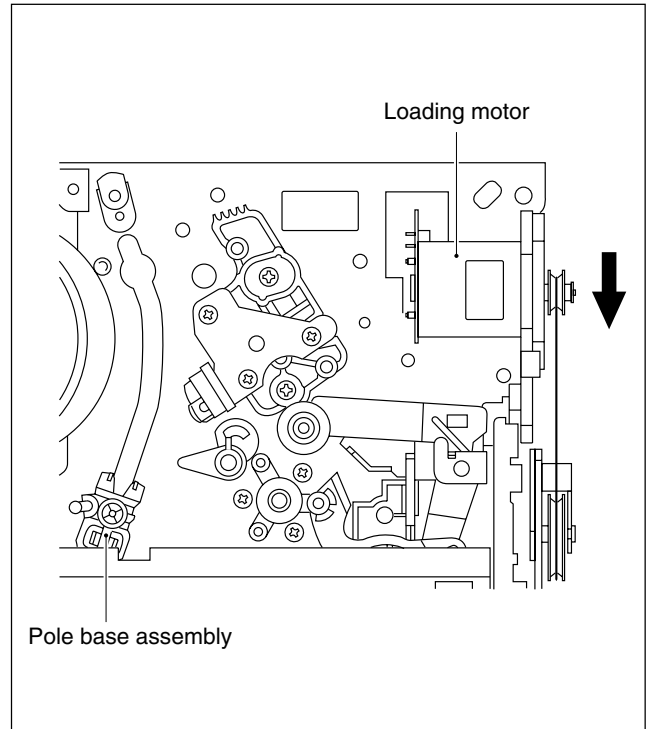
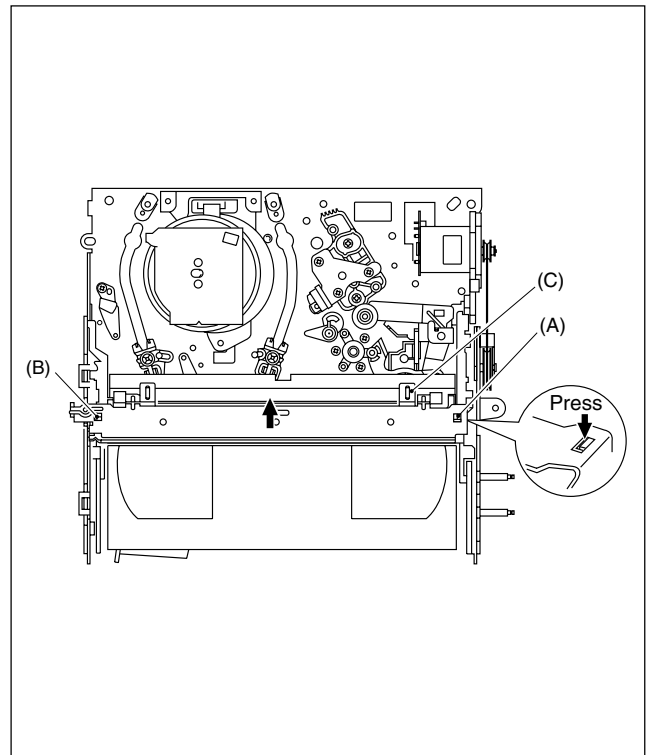

Fig. 2-1-3a
Fig. 2-1-3b
- (1) Unplug the power cord plug from the power outlet.
- (2) Refer to the disassembly procedure and perform the disassembly of the major parts before removing the drum assembly.
- (3) Unload the pole base assembly by manually turning the loading motor of the mechanism assembly toward the front. In doing so, hold the tape by the hand to keep the slack away from any grease. (See Fig.2-1-3a.)
- (4) Bring the pole base assembly to a pause when it reaches the position where it is hidden behind the cassette tape.
- (5) Move the top guide toward the drum while holding down the lug (A) of the bracket retaining the top guide. Likewise hold part (B) down and remove the top guide. Section (C) of the top guide is then brought under the cassette lid. Then remove the top guide by pressing the whole cassette tape down. (See Fig.2-1-3b.)
- (6) Remove the cassette tape by holding both the slackened tape and the cassette lid.
- (7) Take up the slack of the tape into the cassette. This completes removal of the cassette tape.